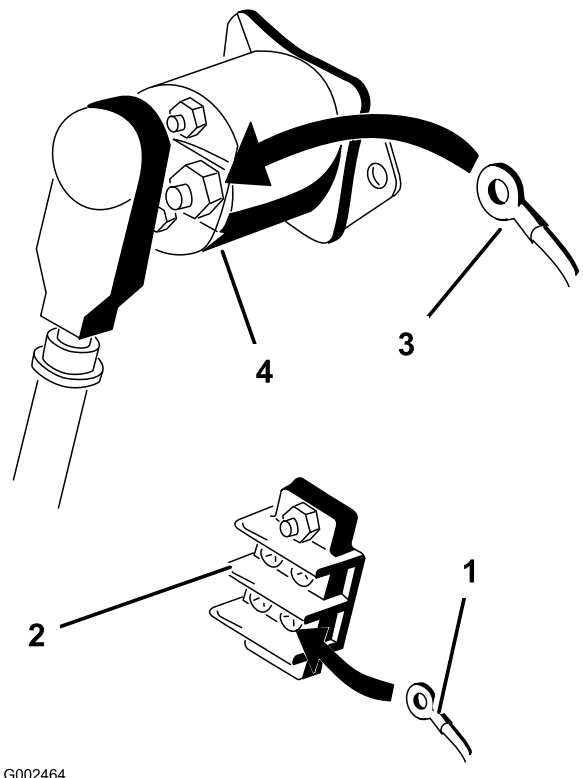

Figure 19
3. Connect the ring labeled ground on the black wire to the ground terminal block (Figure 19).